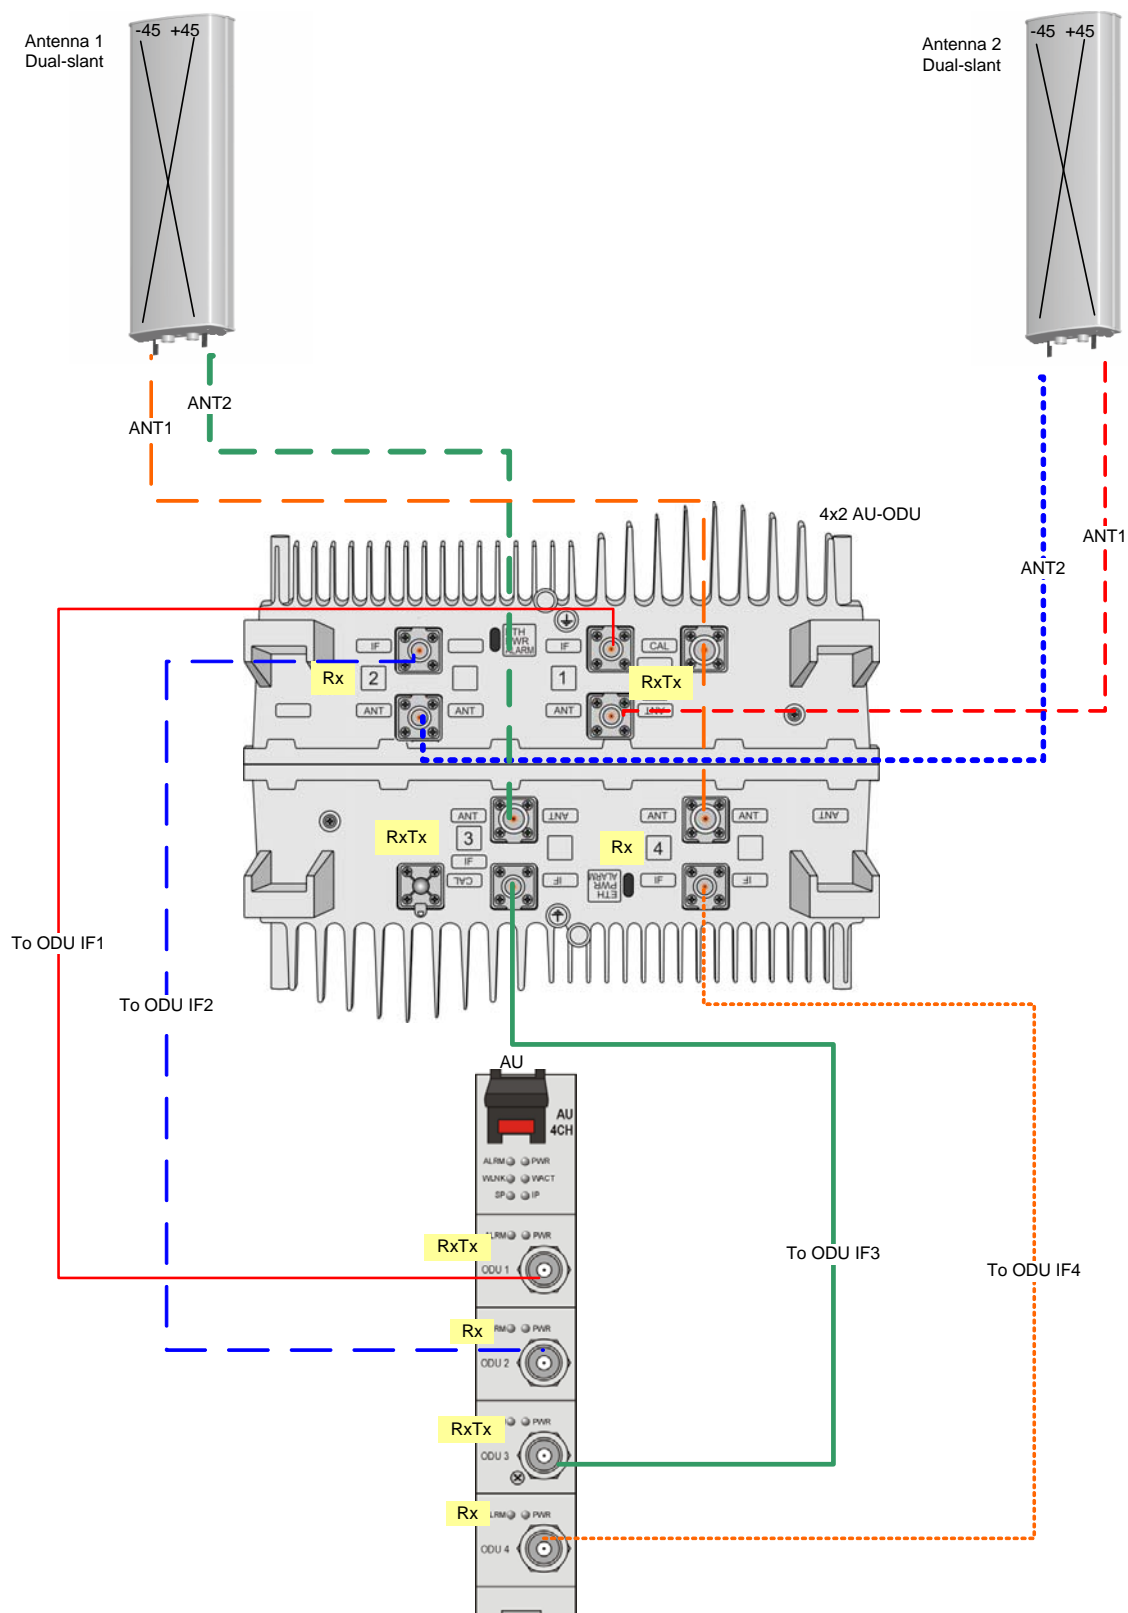

Figure 36: Antenna Connection Diagram (4x2 ODU)
- 3** For connecting more than one antenna or a 4-port antenna to 2x2/4x2 ODUs, note the connection configuration (for 4x2 ODU with two dual-slant antennas, see Figure 36).